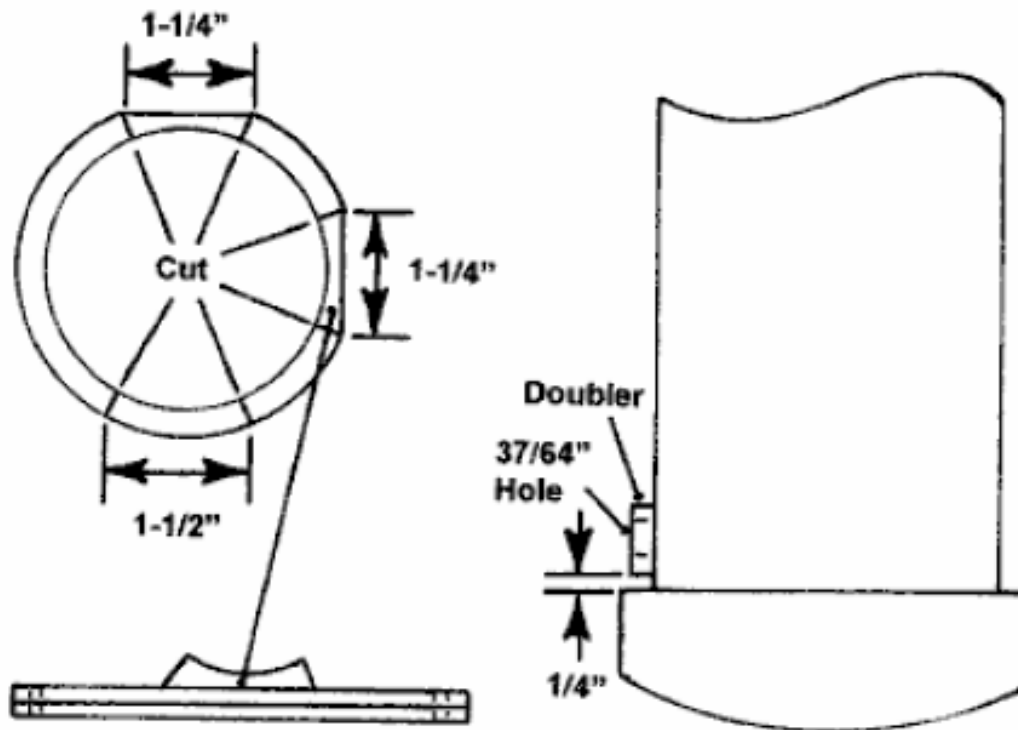

Figure 14: More Housing Attachment Details
6. Cut a 1-1/2" wide ring from the end of the coupling. Referring to Figure 14, and using a band sander, sand the side of the ring to form a flat surface approximately 1-1/4" wide. Sand the side of the ring at another point to form a similar surface. Cut each of two flat surface sections from the ring by cutting at both ends of each flat surface. As shown in Figure 14, this will form two sections from the ring, each with flat outside surfaces 1-1/2" by approximately 1-1/4". Dress the edges of each section and round the corners slightly using sandpaper or a fine-tooth file.
7. As shown in Figure 14, attach a pipe section to each of the two brackets at their midpoints, applying primer to the flat surface of each section and its mating surface on the bracket, and then applying cement. Be sure to square the curved surface of each section with the length of the bracket.
8. Make a doubler by cutting a section 1-1/2" wide from the ring as shown in Figure 14. Dress the edges and round the corners slightly using sandpaper or a fine-tooth file.
Temporarily thread the end cap onto the housing, seating it firmly. Choose a point anywhere around the housing as shown in Figure 14, and mark a spot  $\frac{1}{4}$ " up from the edge of the end cap. Remove the end cap. Apply primer, and then cement, to the mating surfaces of the doubler and housing and attach the doubler to the housing with its lower edge at the marked spot. Align the edge parallel to the housing bottom edge. Allow the cement to air dry for at least 8 hours before going to step 9.
9. Drill a  $\frac{37}{64}$ " hole through the center of the  $1\text{-}\frac{1}{2}$ " x  $1\text{-}\frac{1}{2}$ " doubler and housing wall as shown in Figure 14. Be sure to keep the hole square with the housing wall.
10. Drill a  $\frac{1}{4}$ " fastener hole near the end of each bracket (total of 4 holes) at the locations shown in Figure 14. Slightly round the corners of each bracket using sandpaper or a fine-tooth file.